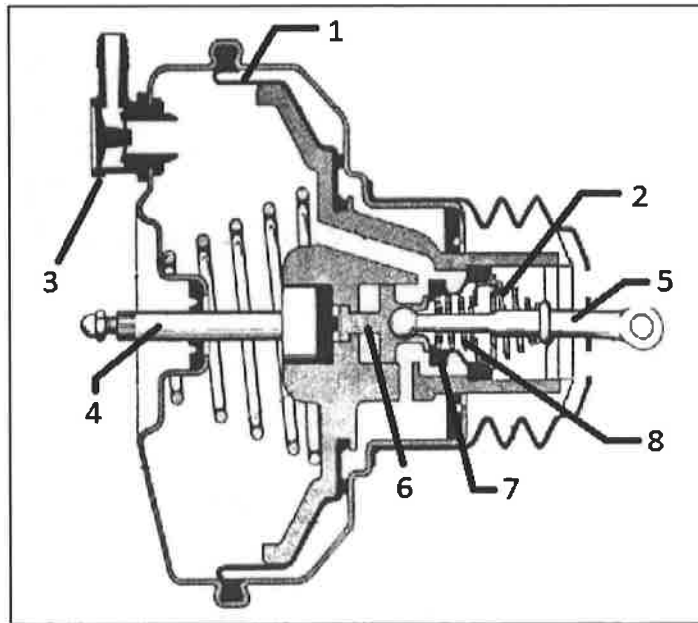

Figure 1: Cutaway view Brake servo
a. Name all components in the figure 1.